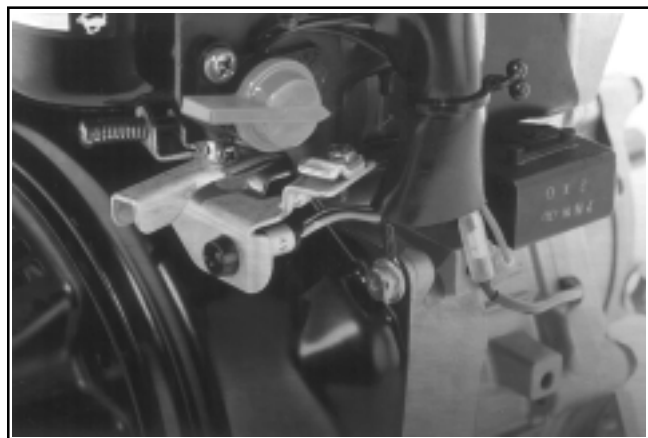

Figure 9-20. CS4, CS6 Silver Screw with Ground Lead.
1. Remove the hex. flange screws securing the blower housing. The screw in the upper right-hand position may also secure a ground lead on some models. See Figures 9-20 and 9-21.